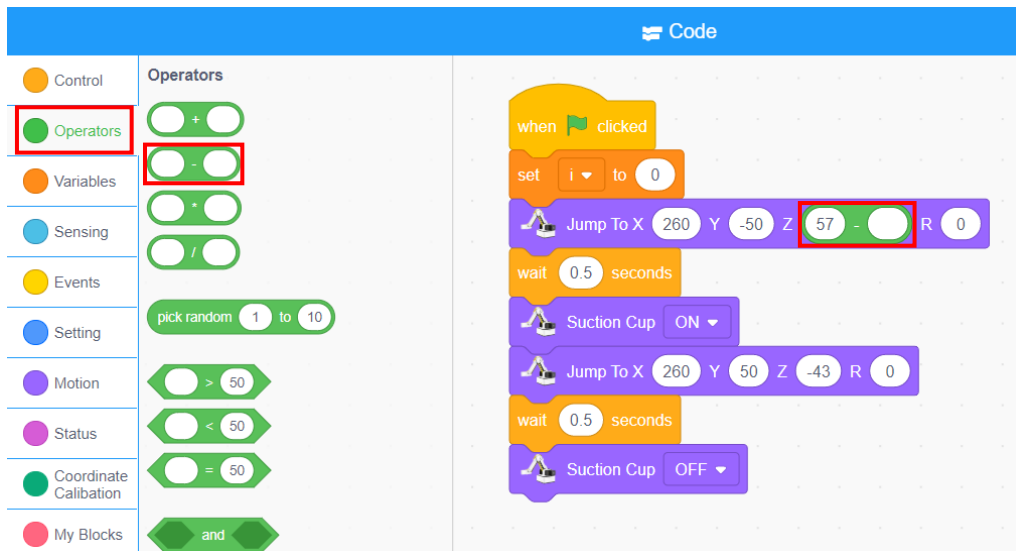

Figure 2.28 Operators "-" blocks
- 1) Click the "**Operators**" tab, drag the "-" operator block to the code area, put it in the Z-coordinate position of the first "Jump To" block, and fill in the left side of the operator "-" block with 57 as shown in Figure 2.28.